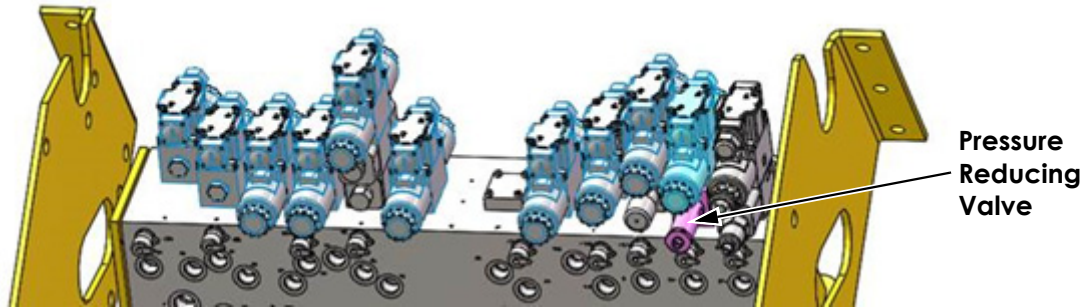

Figure 5: Pressure reducing valve
- Unscrew the fasteners to remove the pressure reducing valve (PRV) as shown in Figure 5. If the check valve is not available then install the BUW valve bank using the socket head fasteners (Canrig P/N: SH-10-24-0200).